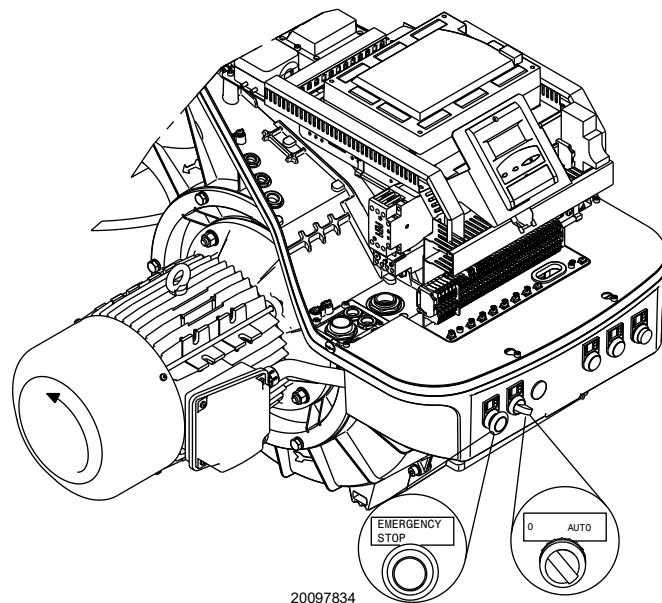

Fig. 22
Turn the switch to position “**AUTO**” (Fig. 22).
Make sure that the lamps or testers connected to the solenoids, or indicator lights on the solenoids themselves, show that no voltage is present. If voltage is present, stop the burner **immediately** and check the electrical wiring. When the burner starts, check the direction of the motor rotation, as indicated in Fig. 22.
- place the switch of Fig. 22 in position “**0**” and wait for the flame control to carry out the switch-off phase;